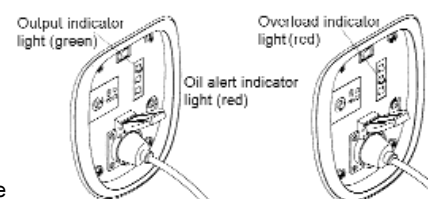

fig. 7
- 3.3.1 Start the engine and ensure the green output indicator light illuminates. Refer to fig. 7.
- 3.3.4 If the red indicator light illuminates, stop the engine and investigate the source of the overloading. Refer to fig. 7.